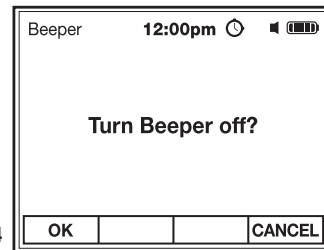

Fig. 24
2. Use the F1 OK soft key to turn the beeper on or off and return to Meter Settings (Fig. 24).